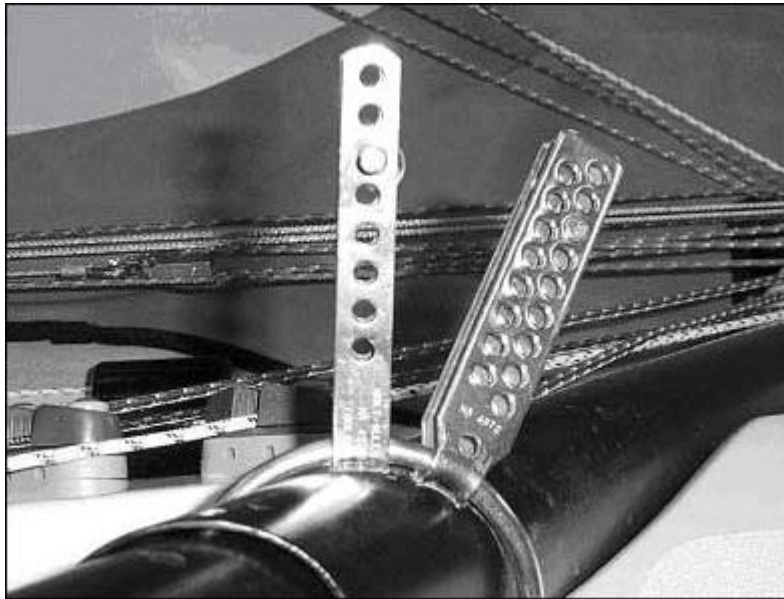

Figure 4.1
- Connect the shrouds to the aft most chainplates, hole three (see figure 4.1) is a good starting point to tune from. You may need to slacken the forestay slightly to do this.